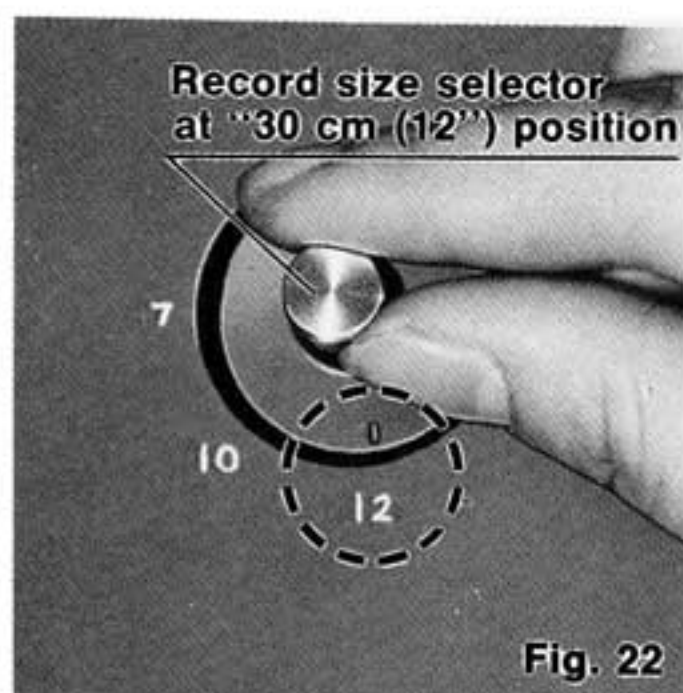

Fig. 22
- ① Install the single play spindle and set the speed selector in the same manner as for manual play.
- ② Set the record size selector to the diameter of the record which you want to play. (See Fig. 22)